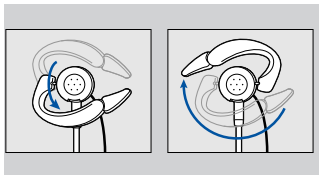

Figure 3-3. Changing Ears.
2. With your right hand, flip the ear capsule down (see Figure 3-3).